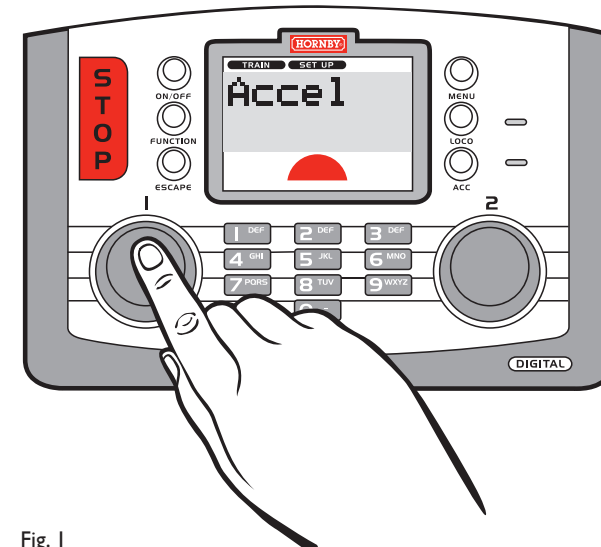

Fig. 1
7. Press **Controller 1** and the red LED will flash for a few seconds. Screen shows "**Accel**". See Fig. 1.